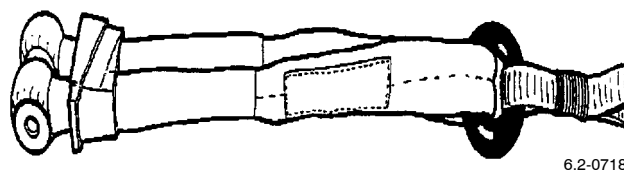

Figure 5. Seal for Location
d. Seal for condition and location over clamp (Figure 5).
a. Withdrawal line attachment to deployment sleeve (Figure 5). (QA)
f. Correct steering line installation. (QA)